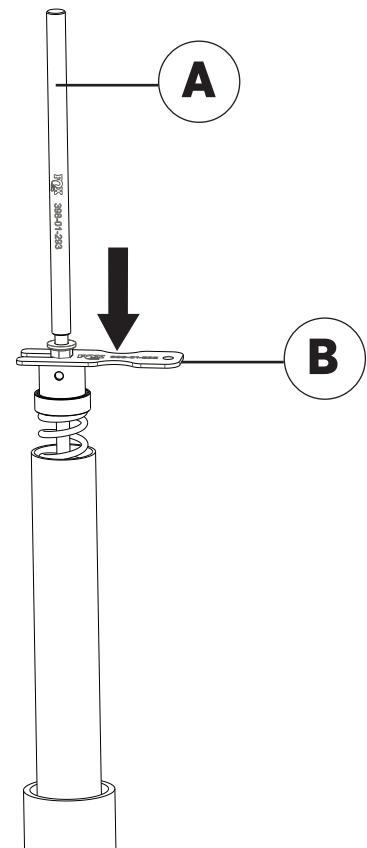

Fig. 13: Compress the spring downward (arrow) and insert the cartridge shaft holding tool (B).
14. Compress the spring until the cartridge shaft holding tool (Fig. 13B) can be inserted between the preload spacer and the cinch nut (Fig. 13).